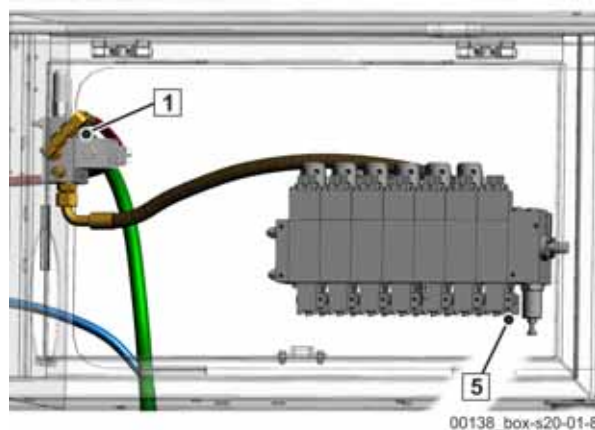
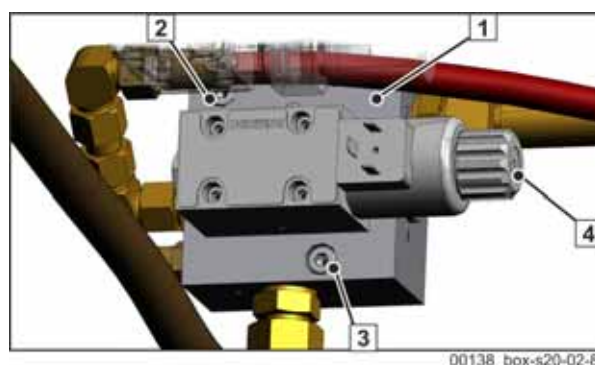

Fig. 524 S20 control cabinet
Fig. 525 Valve in control cabinet
- Unscrew valve block (1) (**Fig. 524**) in order to actuate valve (4) (**Fig. 525**).
- Screw in the control lever on control block (5) (**Fig. 524**) and hold down the control lever in order to activate the “Chamber valve” function.